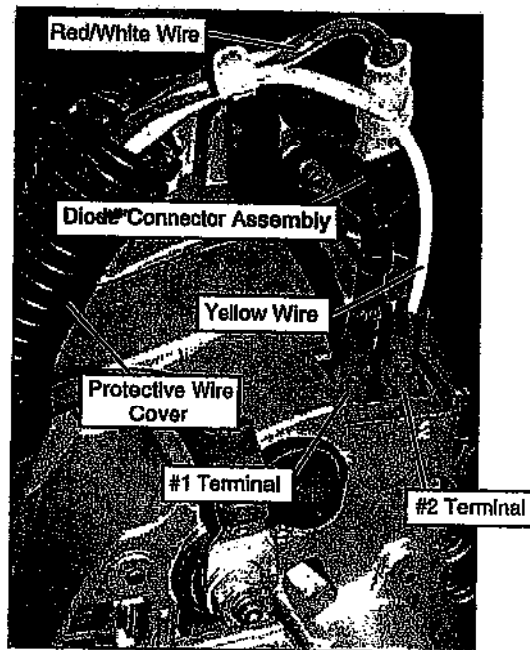

Figure 2
3. Cut and remove the plastic tie straps from protective wire cover starting at the alternator to the starter then to the Barber Coleman governor control. Note location of Tie Straps before removal as new Tie Straps will be installed later. See Figure 2.
4. Attach Diode Connector Assembly (#030948-003) to #1 terminal of alternator. See Figure 2.
5. Locate and remove the Red/White wire at #2 terminal on the alternator and attach it to the Diode Connector Assembly (#030948-003) installed in Step 4. See Figure 2.
6. Attach the push connector of the Yellow Wire Assembly (#030948-002), to terminal #2 of alternator. See Figure 2.